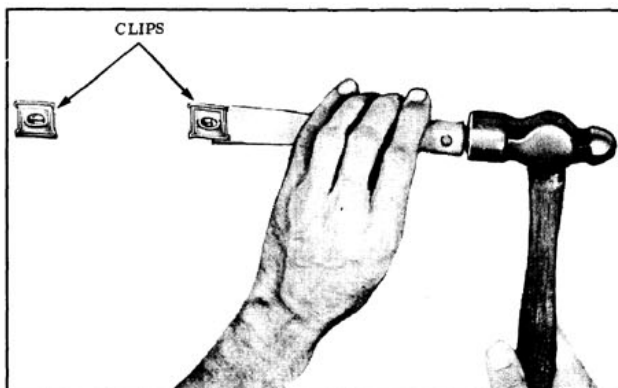

Fig. 16-118 Removing Bathtub-Type Clip
1. Insert sharp edge of flat-bladed tool, such as a putty knife, under edge of clip and hammer tool until base of clip is cut approximately half-way through (Fig. 16-118), then disengage clip from hole.